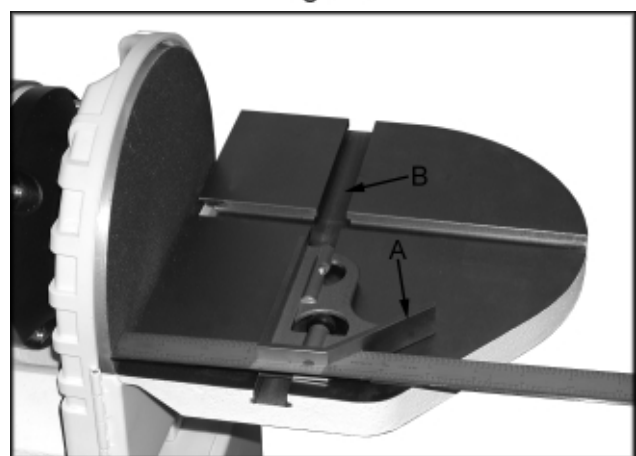

Fig. 12
3. Place a combination square (A, Fig. 12) in the miter gauge slot (B, Fig. 12) and check the distance from the slot to the edge of the sanding disc. Slide the square along the slot to the other end of the disc and check the distance. The distances should be equal to ensure that the miter gauge travels parallel to the disc.